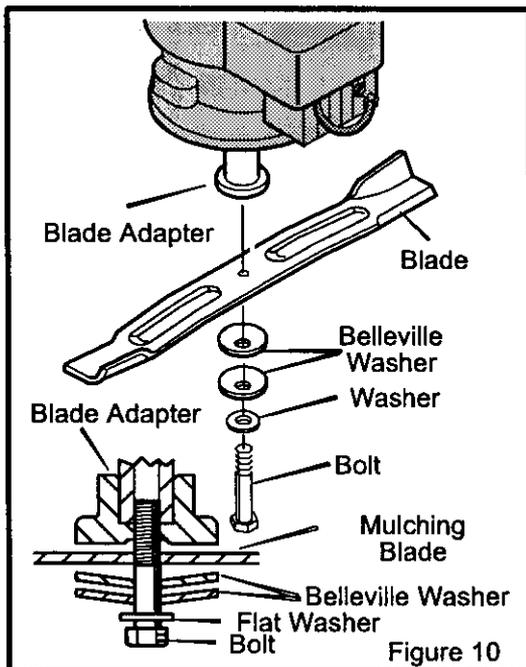

Figure 10
7. Fasten the blade with the original washers and bolt. Make sure the outside rims of the Belleville washers are toward the blade (Figure 10).